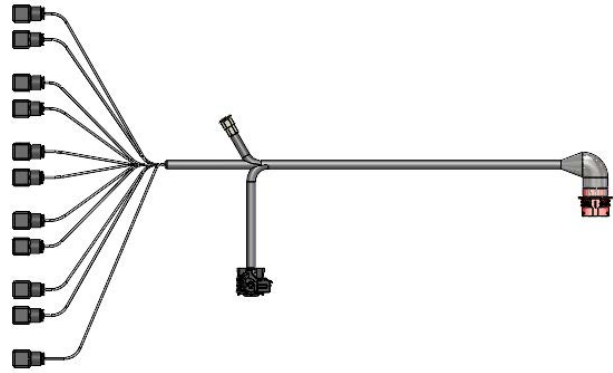

Figure 5: Updated implement harness
7. Connect the new implement harness, shown in *Figure 5*, to the appropriate connection points.